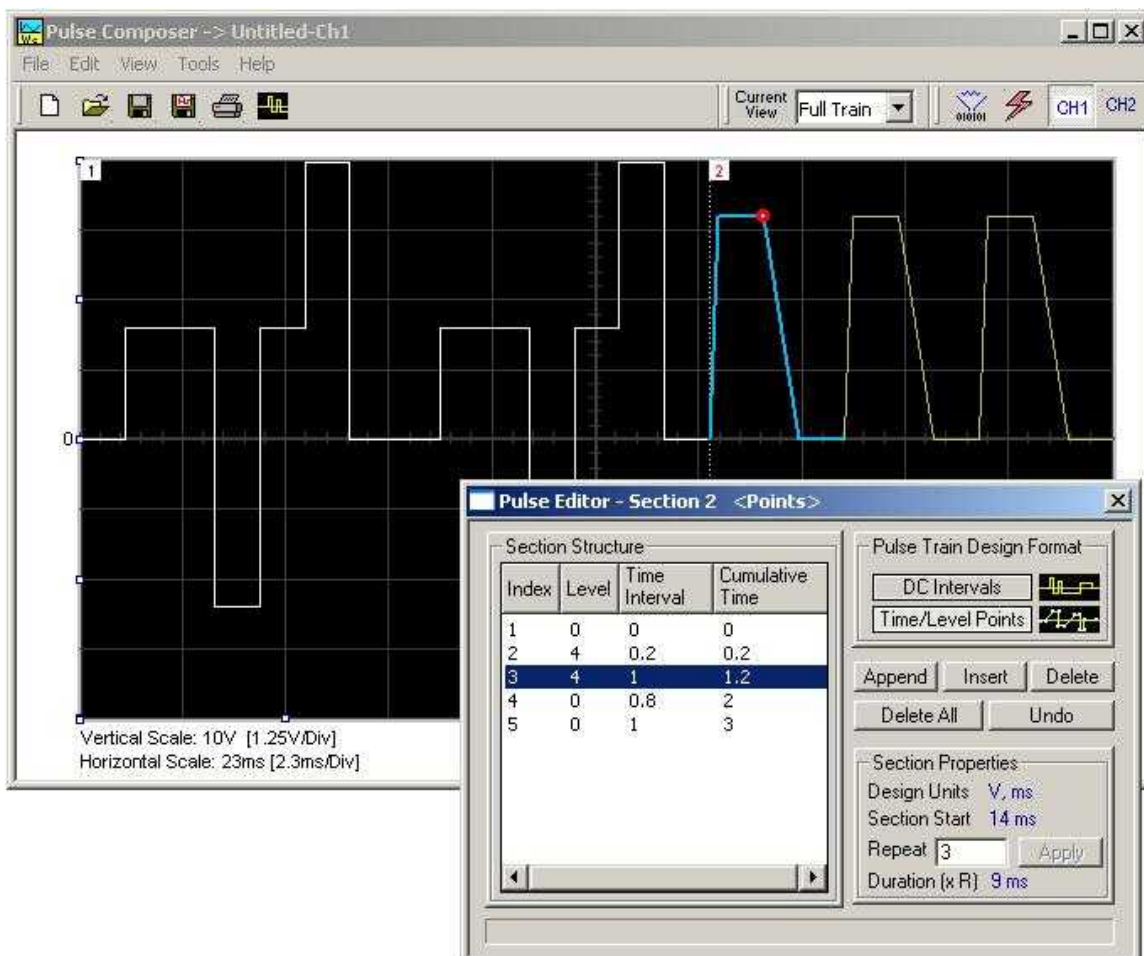

Figure 3-48, Building Section 2 of the Pulse Example
**Pulse Example, Section 2** The first pulse section is complete. We are ready now to start building the second section of the pulse as shown in Figure 3-48. Point and click on the Edit command and select the Append Section option. A new section number will appear but it will show empty next to the section identifier.